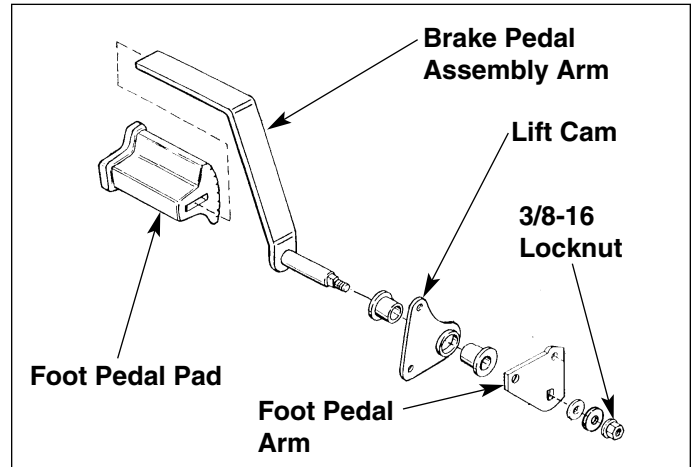

Figure C-5. Hydro Foot Pedal Assembly - Typical
2. Using a 9/16 socket wrench, remove the 3/8-16 locknut that secures the brake pedal assembly arm to the lift cam and foot pedal arm (Figures C-5 through C-7)